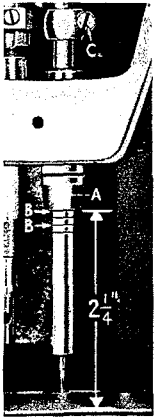
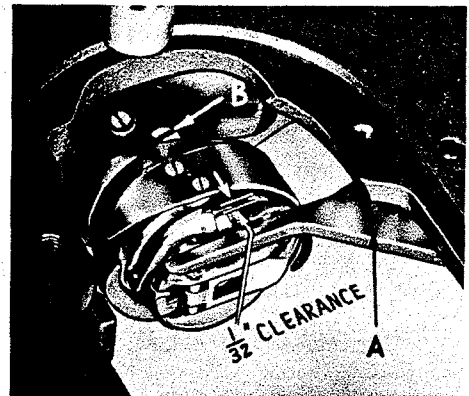

Fig. 11
Fig. 12
The lower needle bar bushing, the one to which the needle bar is timed, is set at the factory. The distance from the bottom of bushing (A, Fig. 11) to the throat plate seat is $2 \frac{1}{4}$ inches.
When the needle bar is at its lowest position, the upper timing line (B, Fig. 11) (of the pair selected) dependent upon the needle used, should be EVEN with the lower edge of the lower needle bar bushing (A).
The illustration (Fig. 11) shows the proper setting of the needle bar on Style 63400 A, using extra short length needle, Type 183 GXS or 183 GYS. The setting of the needle bar on Style 63400 B, using short length needle, Type 180 GXS or 180 GYS, is accomplished in the same manner, except that the lower pair of timing marks on the bar is used.
Tip the machine back so that it rests on the rest pin in the table top. Insert a new needle. Loosen the two screws and swing out the bobbin case positioning finger (A, Fig. 12). Loosen the three set screws (B) in the hook and hold the hook and bobbin case holder in such a position as to prevent interference with the needle. Turn the handwheel in operating direction until the needle bar is at its lowest position and continue to turn the handwheel until the needle is ascending and the lower timing mark (of the pair selected) (Fig. 11) used in setting the needle bar is even with the lower edge of the needle bar bushing (A).
Turn the hook on the shaft until the point of the hook is even with the center of the needle and as close to the needle as possible without deflecting it. A spacing of .003 to .005 inch between the needle and the point of the hook is satisfactory. With the hook in this position, tighten the set screw opposite the hook point securely. Then, tighten the two remaining screws securely and recheck the timing of the hook with the needle, at which time, the top of the eye of the needle should be about $\frac{1}{64}$ inch below the bottom of the hook point. If this condition does not exist, recheck the setting of the needle bar bushing in relation to the throat plate seat (Fig. 11).
Adjust the bobbin case holder positioning finger by turning the bobbin case holder until the finger recess is at the top. Place the projection on the finger into the bobbin case holder recess and tighten the finger attaching screws securely, allowing $\frac{1}{32}$ inch clearance between the outside edge of projection and the inside edge of bobbin case recess (Fig. 12).